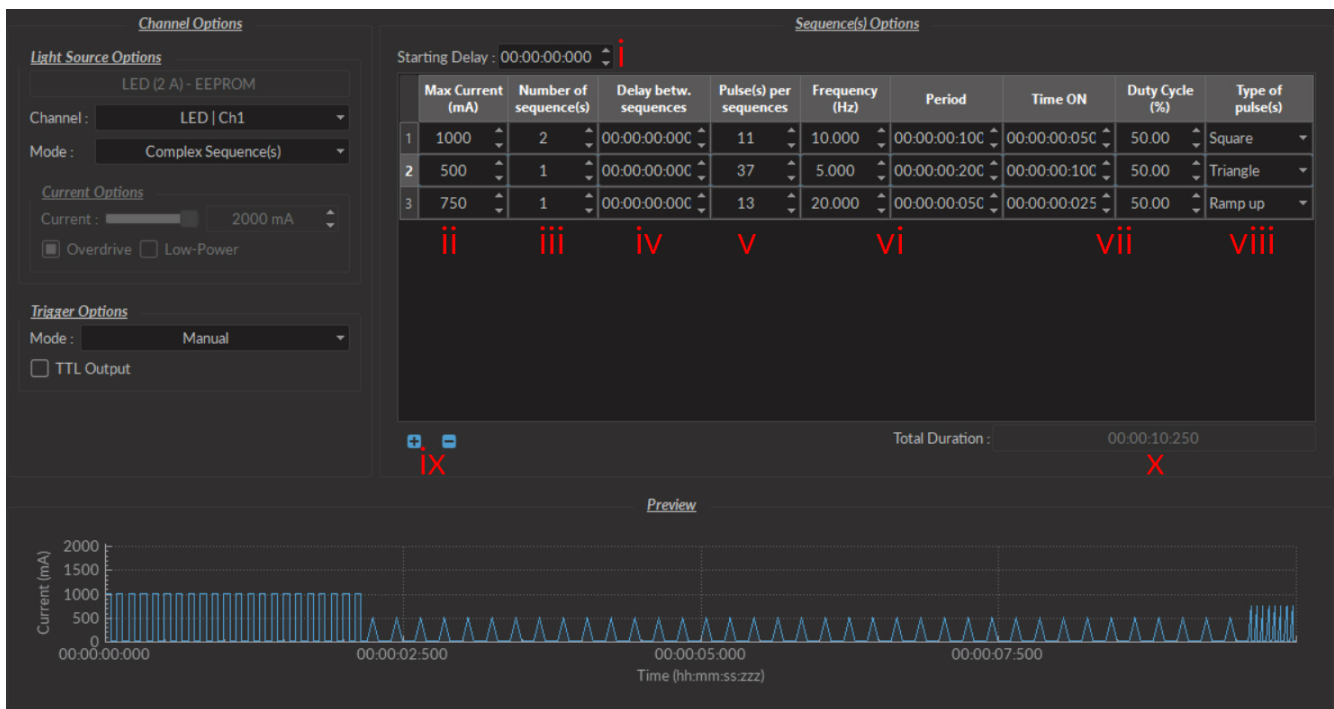
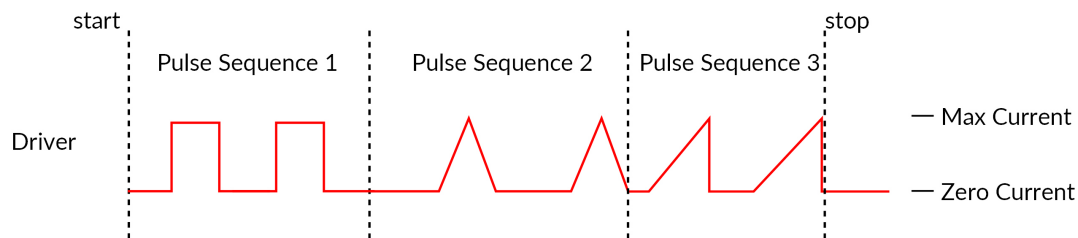

Figure 4.8: Complex Sequences Window
Figure 4.9: Internal Complex Mode Pulse Sequences
- i. The **Starting Delay** (Fig. 4.8) sets the delay (in hh:mm:ss:zzz format) before the first pulse sequence.
- ii. The **Max Current** (Fig. 4.8) sets the maximum current (in mA) for the given sequence.
- iii. The **Number of sequences** (Fig. 4.8) sets the number of times that the sequence will be repeated, with a minimum of 1.
- iv. The **Pulses per sequence** (Fig. 4.8) sets the number of pulses per sequence, with a minimum of 1.
- v. The **Delay between sequences** (Fig. 4.8) sets the delay (in hh:mm:ss:zzz format) between each sequence if the **Number of Sequences** is greater than 1.
- vi. The **Frequency/Period** (Fig. 4.8) sets the frequency (in Hz) or period (in ms) for the pulse sequence. These two values are linked, and when one is changed the other will adjust automatically. For example, a signal at 10 Hz (frequency) will output one pulse every 100 ms (period), whereas a pulse sequence at 0.5 Hz (frequency) will output one pulse every 2000 ms (period).
- vii. The **Time ON/Duty Cycle** (Fig. 4.8) sets the time (in ms) or the duty cycle (in %) for each pulse. These two values are linked, and when one is changed the other will adjust automatically. The **Time ON** must be lower than  $(1/\text{frequency})+0.005$  ms, while the **Duty cycle** must be below 100 %.
- viii. The **Types of pulses** (Fig. 4.8) sets the pulse type. Pulses can be **Square**, triangular (**Triangle**), **Ramp up** **Ramp down** or **Delay** (Fig. 4.9). The **Delay** pulse type is used to create a delay between different sequence
- ix. The **Sequence controls** (Fig. 4.8) allow the addition (+) or removal (-) of sequences to the spreadsheet.
- x. The **Total Duration** (Fig. 4.8) displays the total time of the experiment. The different values can be *Inf* for infinite, a valid time value or *Err* if the **Time ON** value is greater than 1/frequency.